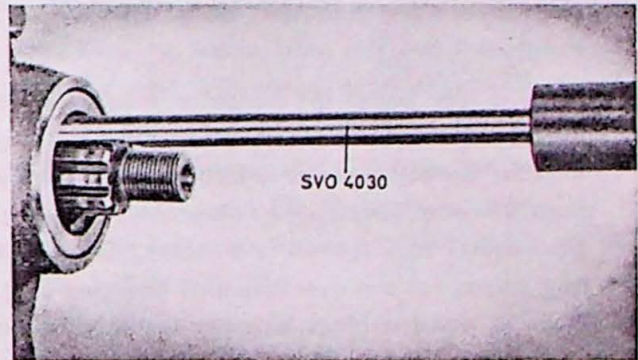
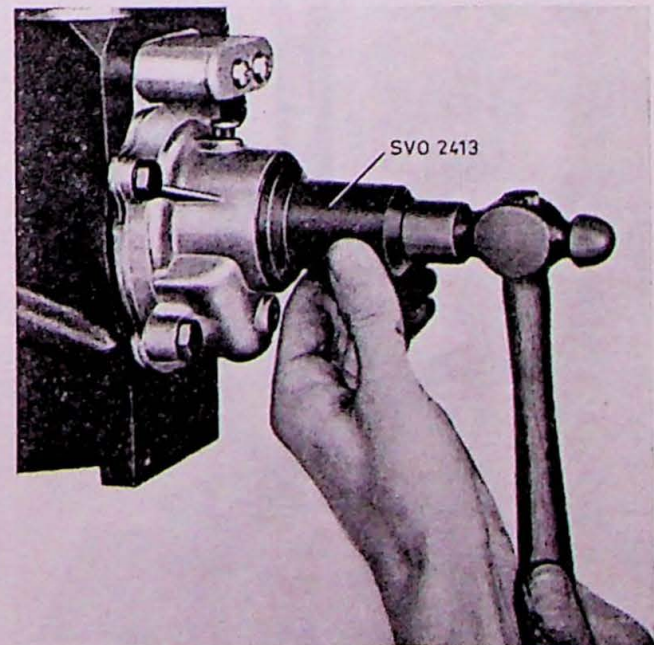

Fig. 3-13. Removing sealing ring
Fig. 3-14. Fitting sealing ring
3. Pull out the old sealing ring (18) with puller SVO 4030, Fig. 3-13. Fit the new sealing ring with the help of drift SVO 2413, Fig. 3-14.